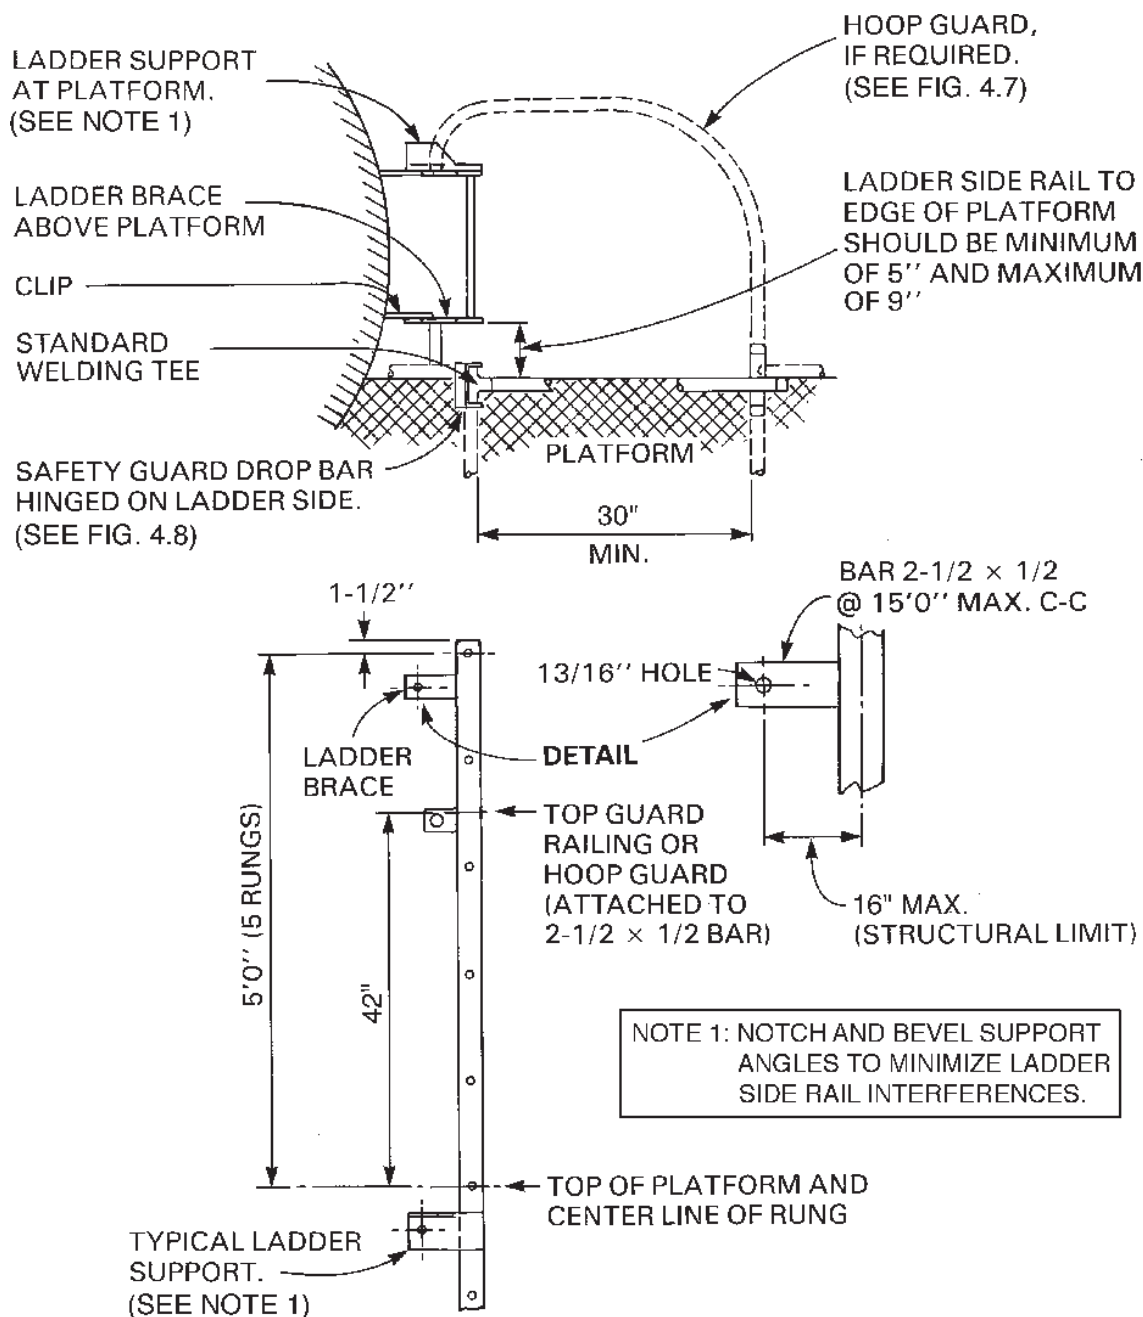

Figure 4.5 Side Access Ladder Head (Preferred Arrangement)
2. For details of ladder heads, see *Figures 4.5* and *4.6*.
2. Figure 4.5 shows the side access arrangement.